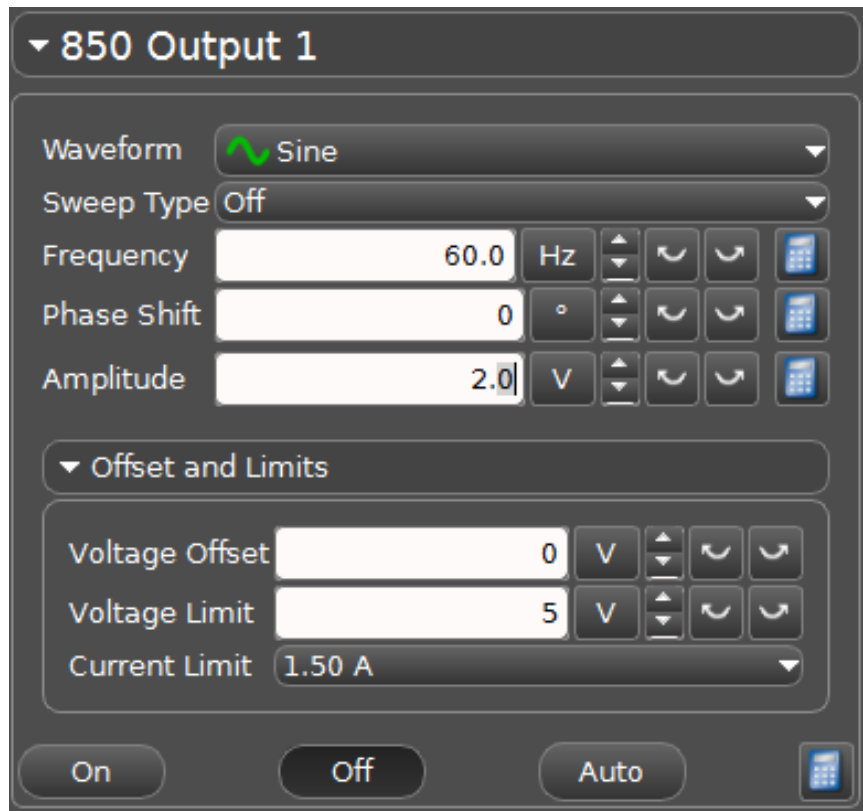

Figure 4: The Pasco Capstone display.
5. Double click on the “Experiment S-1” file in the PASCO/Physics202 folder on the desktop. The display will appear as shown in Fig. 4.